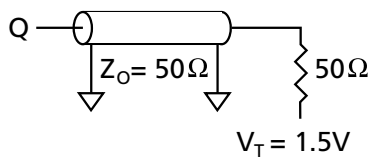
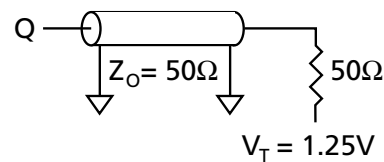

Figure 1
Figure 3
1. Test conditions as specified with the output loading shown in Figure 1 for 3.3V I/O ($V_{DDQ} = +3.3\text{V} +0.3\text{V}/-0.165\text{V}$) and Figure 3 for 2.5V I/O ($V_{DDQ} = +2.5\text{V} +0.4\text{V}/-0.125\text{V}$ for 2.5V I/O) unless otherwise noted.
Output load	See Figures 1 and 2
Output load	See Figures 3 and 4